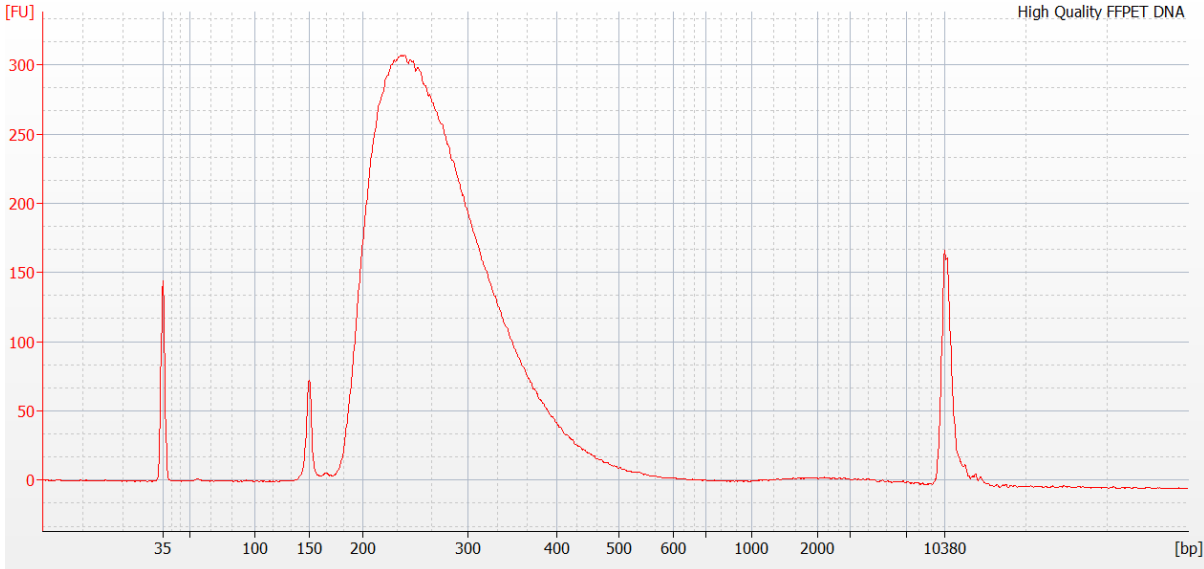
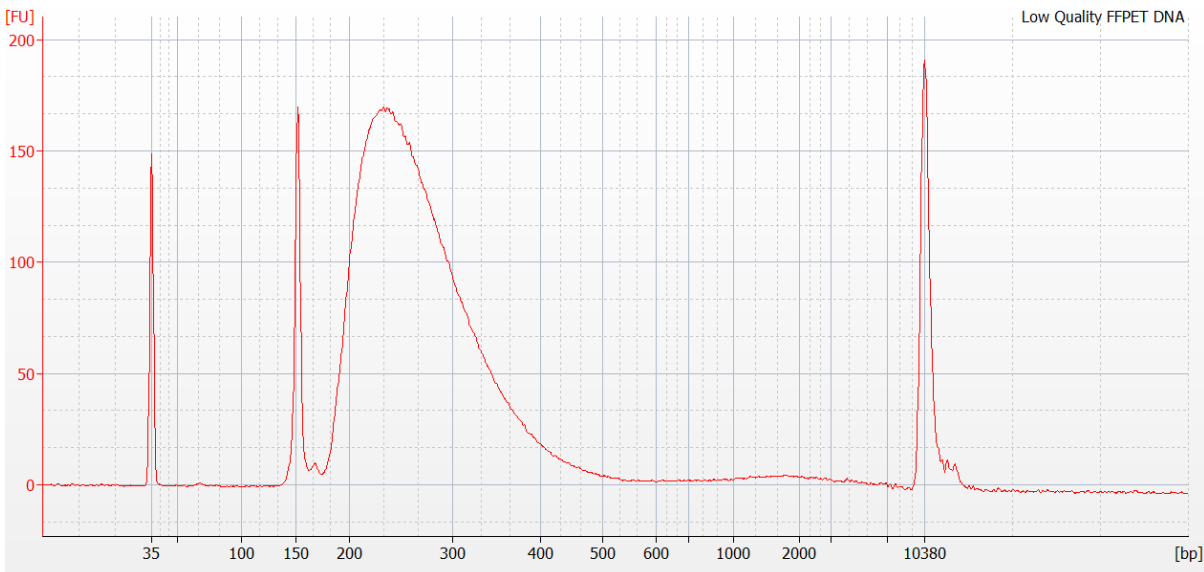

Figure 3: Example of a Pre-Capture amplified **high quality** FFPET sample library analyzed using an Agilent Bioanalyzer High Sensitivity DNA assay.
Figure 4: Example of a Pre-Capture amplified **low quality** FFPET sample library analyzed using an Agilent Bioanalyzer High Sensitivity DNA assay.
- a. Amplified Sample Libraries (Pre-Capture libraries) should display a fragment size distribution in the range of 150 to 500 bp, with an average size of ~320 bp for high quality gDNA or FFPET samples (Figure 3). For lower quality FFPET samples, the average size may be lower (Figure 4). Sharp peaks may be visible in the region  $< 150$  bp. These peaks correspond to unincorporated primers, primer-dimers or carry-over adapter-dimer and will not interfere with the capture process.